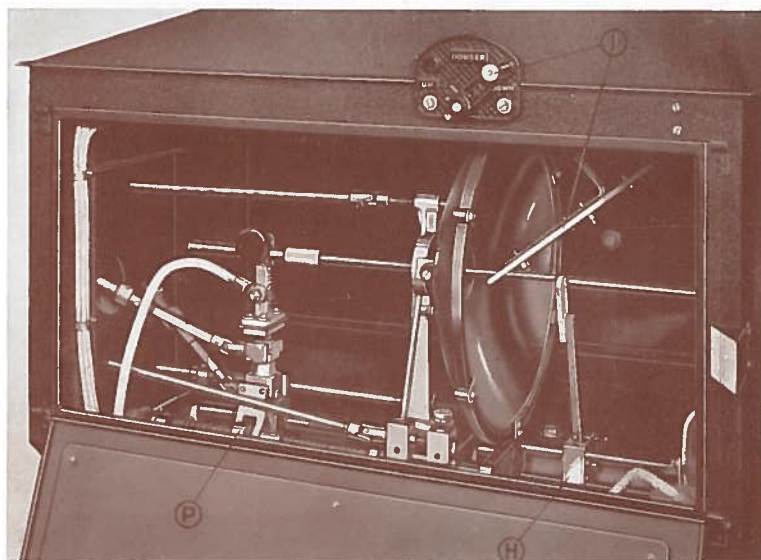

Fig. 2
Simultaneous drive to both carbon heads along the horizontal Centre Line of the lamp, is by means of worm shafts, it being possible to disengage the drive nuts (P. Fig. 2) to both front and rear carbon heads, thus facilitating rapid replacement of carbons.
**H. Carbon Positioner (Fig. 2).**—Comprises moveable arm, with heat resisting insulated end, location of the "in" and "out" positions being by means of spring loaded plunger.
**I. Douser (Fig. 2).**—This comprises a heat resisting shield, operated by lever having spring loaded locating device which secures same in the "Up" or "Down" positions.